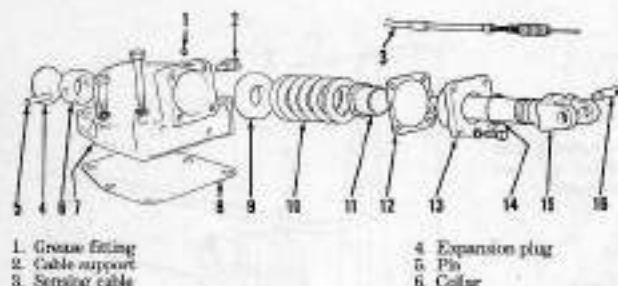
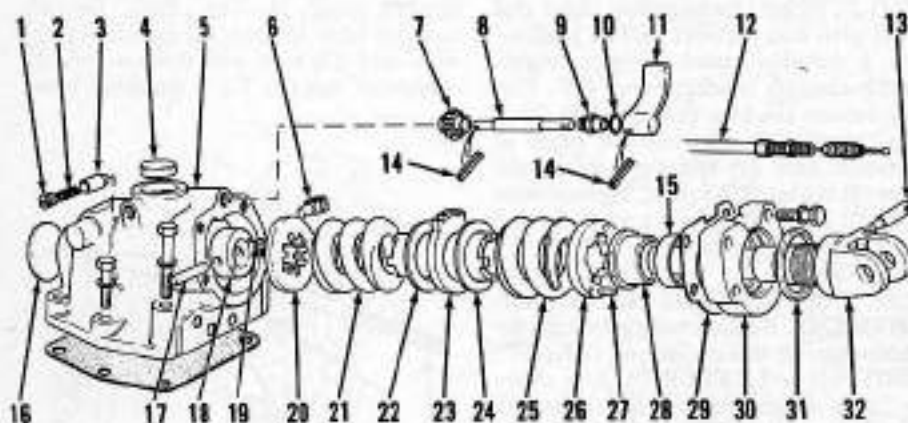

Fig. 220—Exploded view of single rate sensing unit component parts and their relative positions.
Fig. 221—Exploded view of selective rate sensing unit showing component parts and their relative positions.
**396. DRAFT SENSING UNIT.** Individual models may be equipped with single rate sensing unit (Fig. 220) or a selective rate sensing unit (Fig. 221). Sensing unit function is to maintain a set operating depth for ground engaging implements which have no gage wheels. Pressure exerted by implement being pulled through the ground is transmitted from implement, through hitch upper link which connects to draft sensing unit. This pressure causes movement in draft sensing spring which is relayed through linkage to selectamatic valve causing lift arms to raise, stay in position or lower in accordance with amount of pressure causing spring movement.
**397. SINGLE RATE SENSING UNIT.** To disassemble, disconnect draft sensing cable (3—Fig. 220). Slowly and
To disassemble, remove core plug (4—Fig. 221) and place selector lever in vertical position. Remove the four end plate bolts and withdraw shaft assembly far enough for rack to be disengaged from pinion. Rotate shaft assembly far enough for rack to be disengaged from pinion, then rotate shaft until rack teeth are aligned with cut-out in housing and withdraw shaft assembly. Remove pin (17) and collar (18). Slide spring, carrier, thrust washer and shims off of shaft. Note location and thickness of shims. Remove end plate by holding flats of sleeve (28) and unscrewing shaft (32). "Loctite" is applied to threads during reassembly.